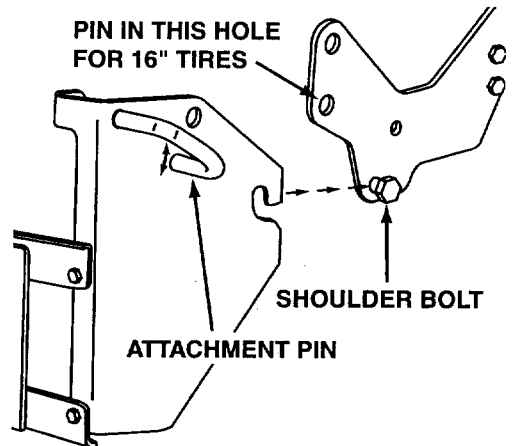

Figure 9
15. To attach the hitch assembly to the front of the tractor, pull out on the attachment pins and swing the pins down away from the holes they were in. See figure 9.
16. Hook the hitch assembly onto the shoulder bolts assembled to the frame brackets. See figure 9.
17. Align the holes in the hitch assembly with the holes in the frame brackets. Insert the end of the attachment pins into the aligned holes to lock the hitch assembly in place. See figure 9.